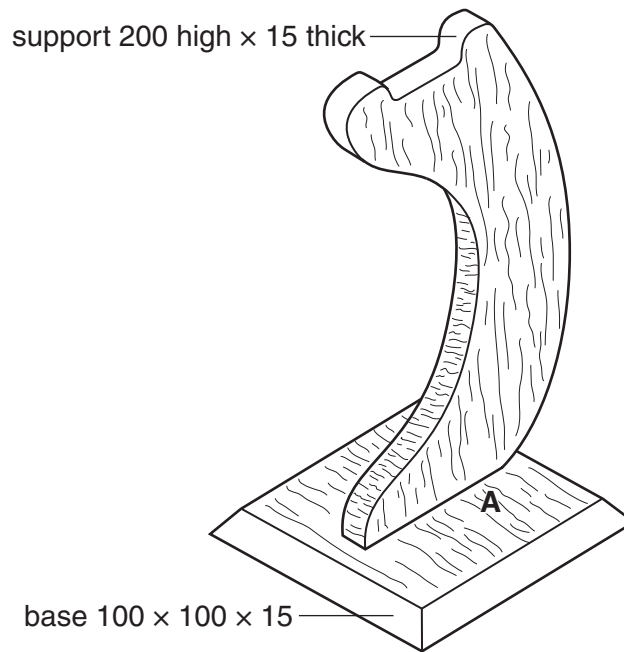

Fig. 13
- (e) Fig. 13 shows a different design of headphone stand made from hardwood.
- (i) Sketch and name a suitable joint used to join the support to the base at **A** in Fig. 13.